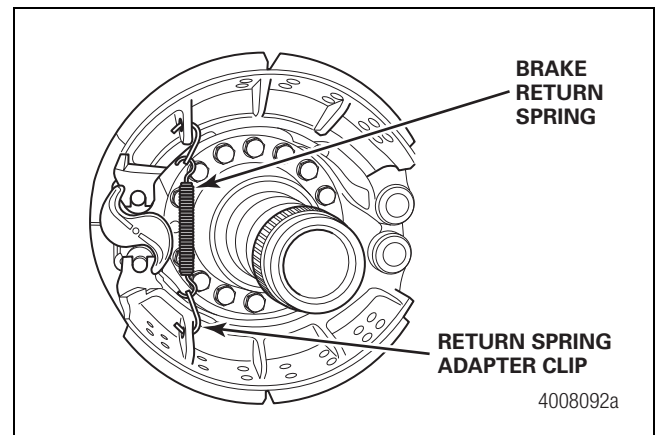

Figure 5.18
7. Install the brake return spring and clips. Figure 5.18.